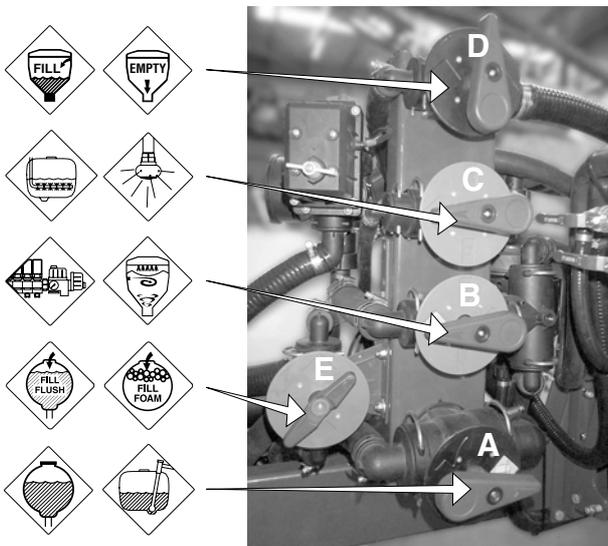

Fig 32
- With FILL handle (E Fig 32) OFF, align the Pressure handle (B Fig 32) with the icon indicating CHEM FILL.
- Align Suction valve (A Fig 32) with MAIN TANK. This means liquid from the Main Tank will be used to mix with chemical concentrate in the GRANNI POT, and the spray solution will be used to flush the concentrate from the GRANNI POT hopper.
- After adding the required chemicals, you can flush the GRANNI POT hopper with clean water. Align the Suction handle (A Fig 32) to FLUSH TANK.
- IMPORTANT!** Return the Suction handle (A) to MAIN TANK, and Pressure (B) to DISTRIBUTION (Spray). Continue filling the Main Tank with tractor running.
- Fill all tanks as described, allowing space in the main tank for the addition of chemical / water mixture (Filling P 12-13). Turn FILL handle (E Fig 32) OFF.
- Align Pressure valve (B Fig 32) with the icon indicating the CHEM FILL.
- Turn the Suction valve (A Fig 32) to MAIN TANK. This means liquid from the Main Tank will be used to mix with chemical concentrate in the Granni Pot. Follow GRANNI POT Operators Manual directions.
- After adding chemicals, flush the hopper with clean water (Suction valve (A Fig 32) to FLUSH TANK.
- Return Suction valve (A) to MAIN TANK, and Pressure valve (B) to DISTRIBUTION (Spray).
- Turn the pressure valve (B Fig 32) to align with the icon indicating the CHEM FILL.
- Align Suction valve (A Fig 32) with FLUSH TANK. This means that, as the Flush Tank is being topped up from your water supply, its contents will be used to mix with chemical concentrate in the Granni Pot, the mixture then transferring to the Main Tank.
- Follow GRANNI POT Operators Manual directions. **NOTE!** Watch level of fluid in Flush Tank. Keep fluid level consistent by adjusting the FILL handle (E Fig 32) between FLUSH TANK and OFF.
- After adding chemicals, with the Suction valve (A Fig 32) remaining at FLUSH TANK, flush the GRANNI POT with clean water.
- Turn Pressure valve (B Fig 32) to DISTRIBUTION (spray), and return Suction valve (A) to MAIN TANK. Open primary filling valve to MAIN TANK to complete filling.